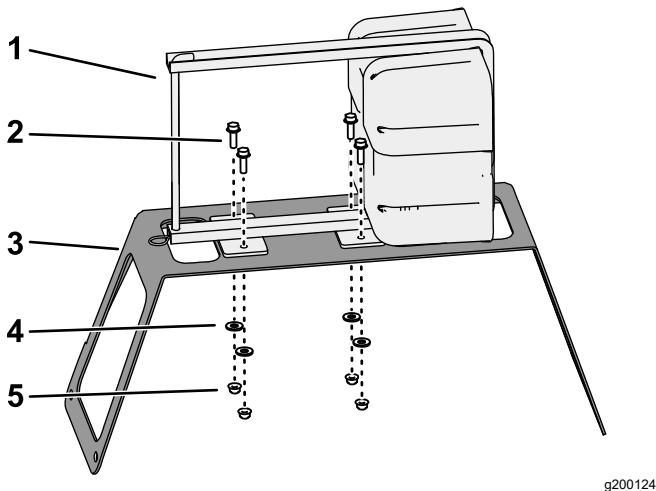

Figure 3
1. Align the foam marker tank and compressor to the mounting bracket as shown in Figure 3.
2. Secure the compressor to the bracket (Figure 3) using the 4 bolts (5/16 x 1 inch), 4 washers (3/8 inch), and 4 flanged locknuts (5/16 inch).